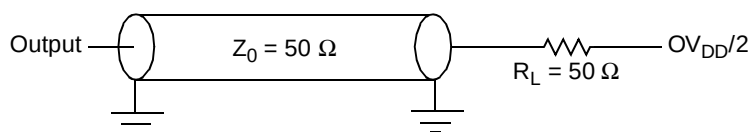

Figure 29. AC Test Load for the JTAG Interface
1. All outputs are measured from the midpoint voltage of the falling/rising edge of t_{TCLK} to the midpoint of the signal in question. The output timings are measured at the pins. All output timings assume a purely resistive 50- Ω load (see Figure 29). Time-of-flight delays must be added for trace lengths, vias, and connectors in the system.
2. The symbols used for timing specifications follow the pattern of $t_{(first\ two\ letters\ of\ functional\ block)(signal)(state)(reference)(state)}$ for inputs and $t_{(first\ two\ letters\ of\ functional\ block)(reference)(state)(signal)(state)}$ for outputs. For example, $t_{JTDVKKH}$ symbolizes JTAG device timing (JT) with respect to the time data input signals (D) reaching the valid state (V) relative to the t_{JTG} clock reference (K) going to the high (H) state or setup time. Also, t_{JTDXKH} symbolizes JTAG timing (JT) with respect to the time data input signals (D) went invalid (X) relative to the t_{JTG} clock reference (K) going to the high (H) state. Note that, in general, the clock reference symbol representation is based on three letters representing the clock of a particular functional. For rise and fall times, the latter convention is used with the appropriate letter: R (rise) or F (fall).
Figure 29 provides the AC test load for TDO and the boundary-scan outputs.